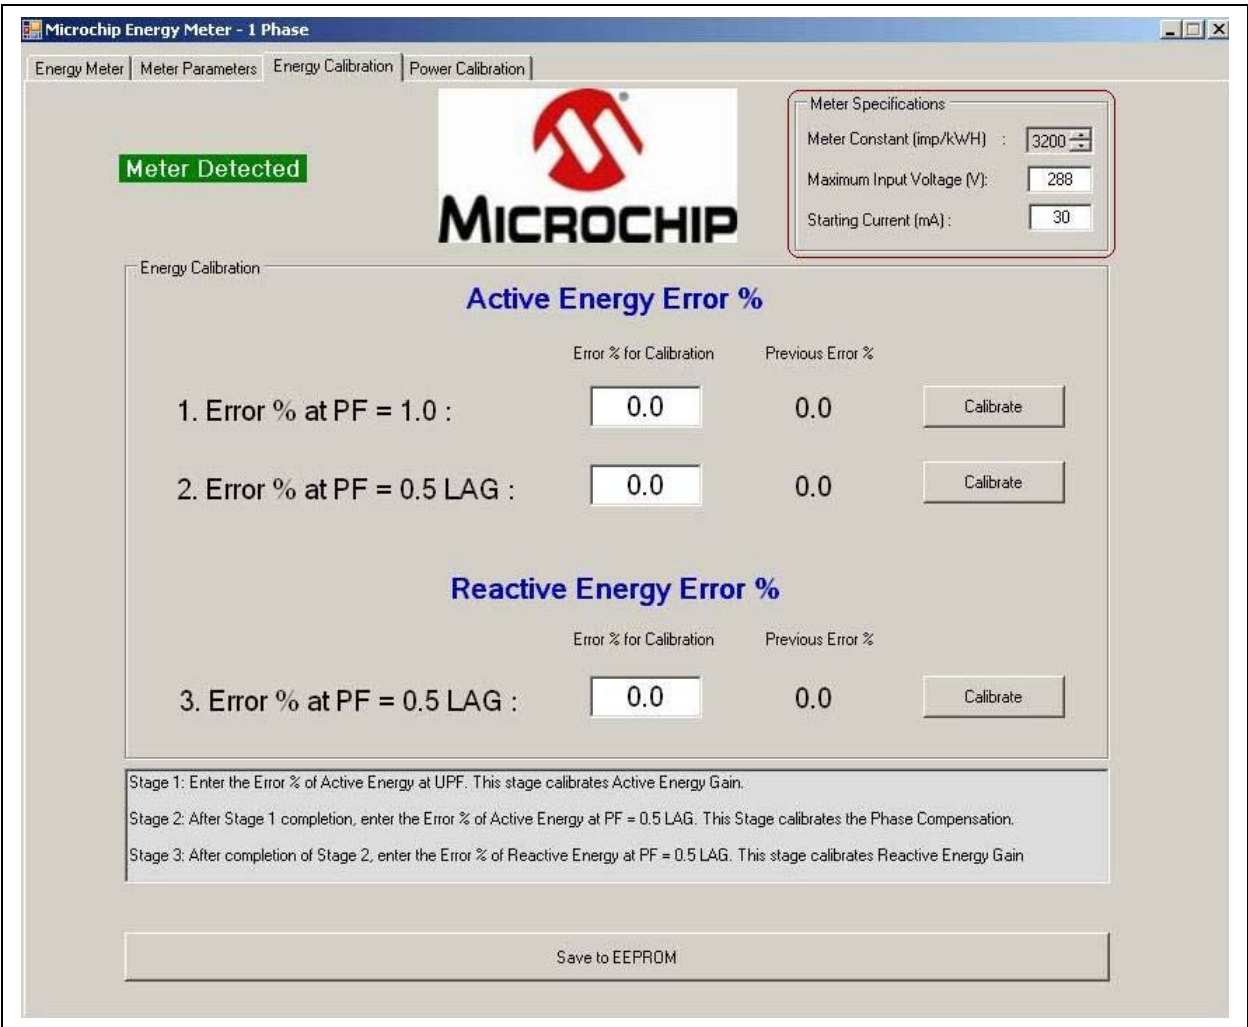

FIGURE 2-20: Creep Threshold Calibration.
1. Enter the maximum rated voltage of the meter in "Maximum Input Voltage (V)" field, as shown in Figure 2-20.